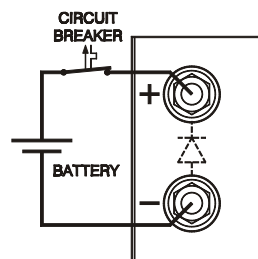

fig. 4 - 8
Use a CIRCUIT BREAKER in series in order to protect the power supply from **accidental reverse connection** (see fig. 4 - 8). The circuit breaker should have a DC voltage rating twice the battery voltage. Use the very fast type (Z), a type meant for protecting semiconductors (see table 4 - 2).
- The Remote ShutDown can be operated on CON E by a voltage of +4 V...+12 V or by a relay contact between Vref and Remote ShutDown (pin 9 and 5) (see fig. 4 - 9).